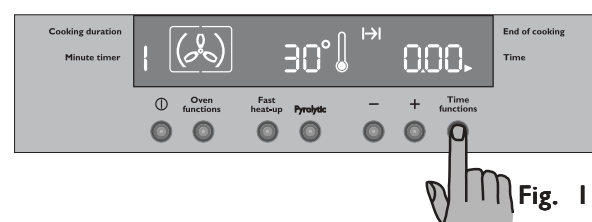

Fig. 11
- 2) Press Time functions button to select the "Cooking Duration" function (Fig. 11). The "Cooking Duration" symbol |→| will flash and the control panel will display "0.00".
- 5) To switch off the acoustic alarm, press button ①.